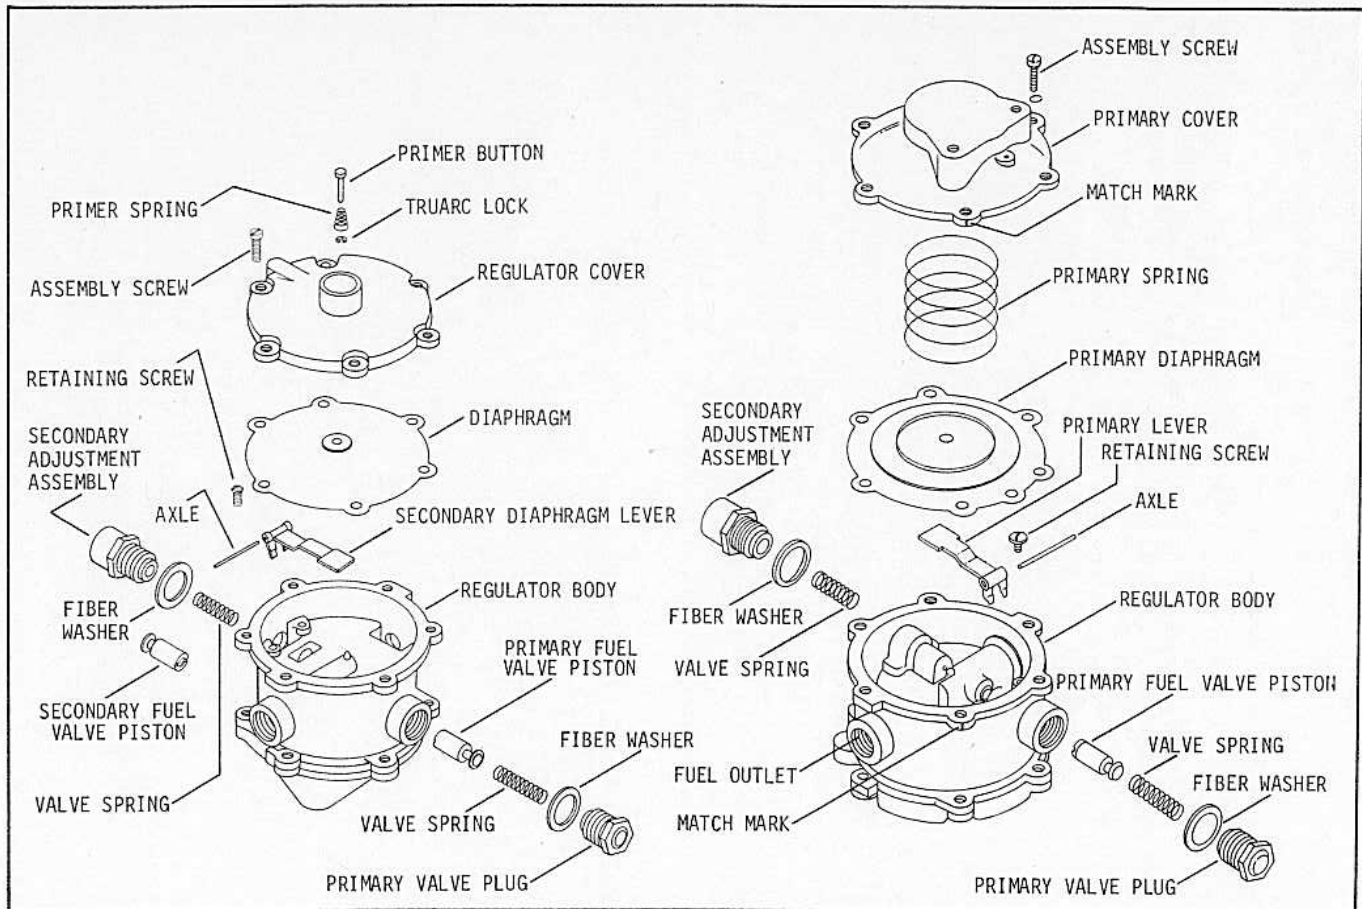

FIGURE 13-12 DISASSEMBLY TWO STAGE REGULATOR
2. Scribe a match mark from primary diaphragm cover to regulator body casting so that upon reassembly, these parts can be replaced in their original position. Figure 13-12.